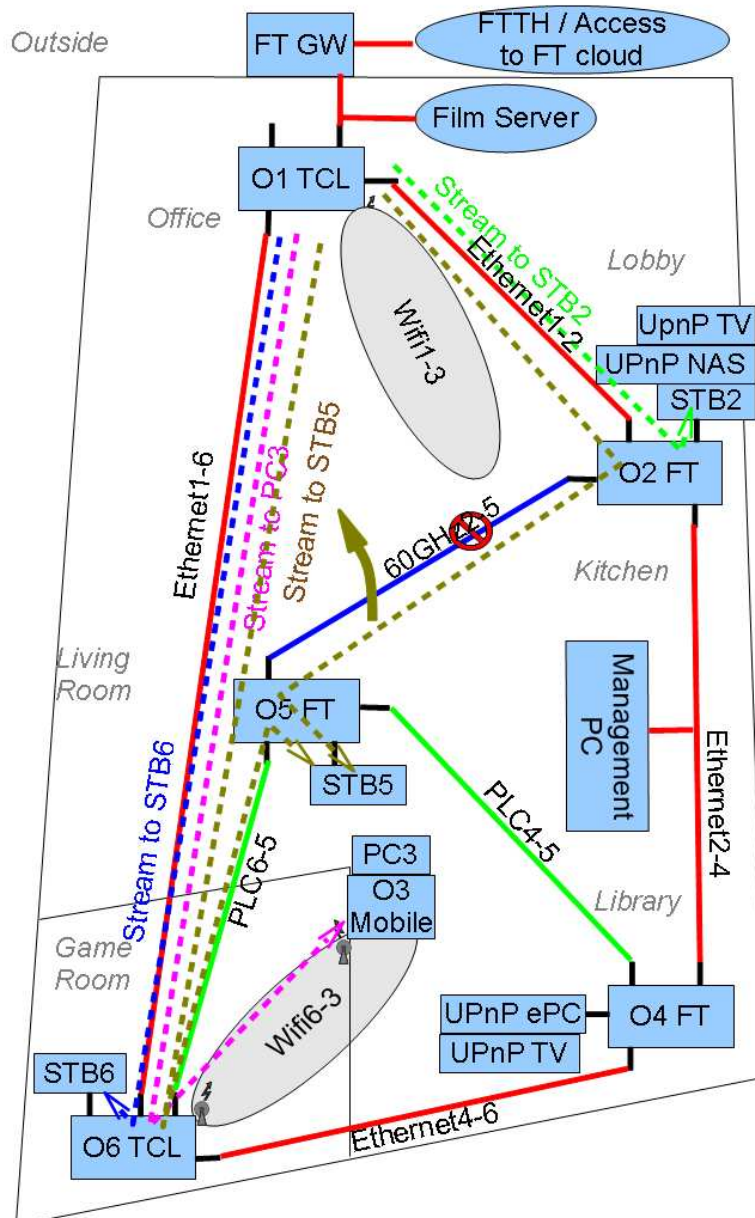

Figure 4: Handover on 60GHz
- o Figure 4 shows this: Stream to STB 5 is redirected through PLC6-5